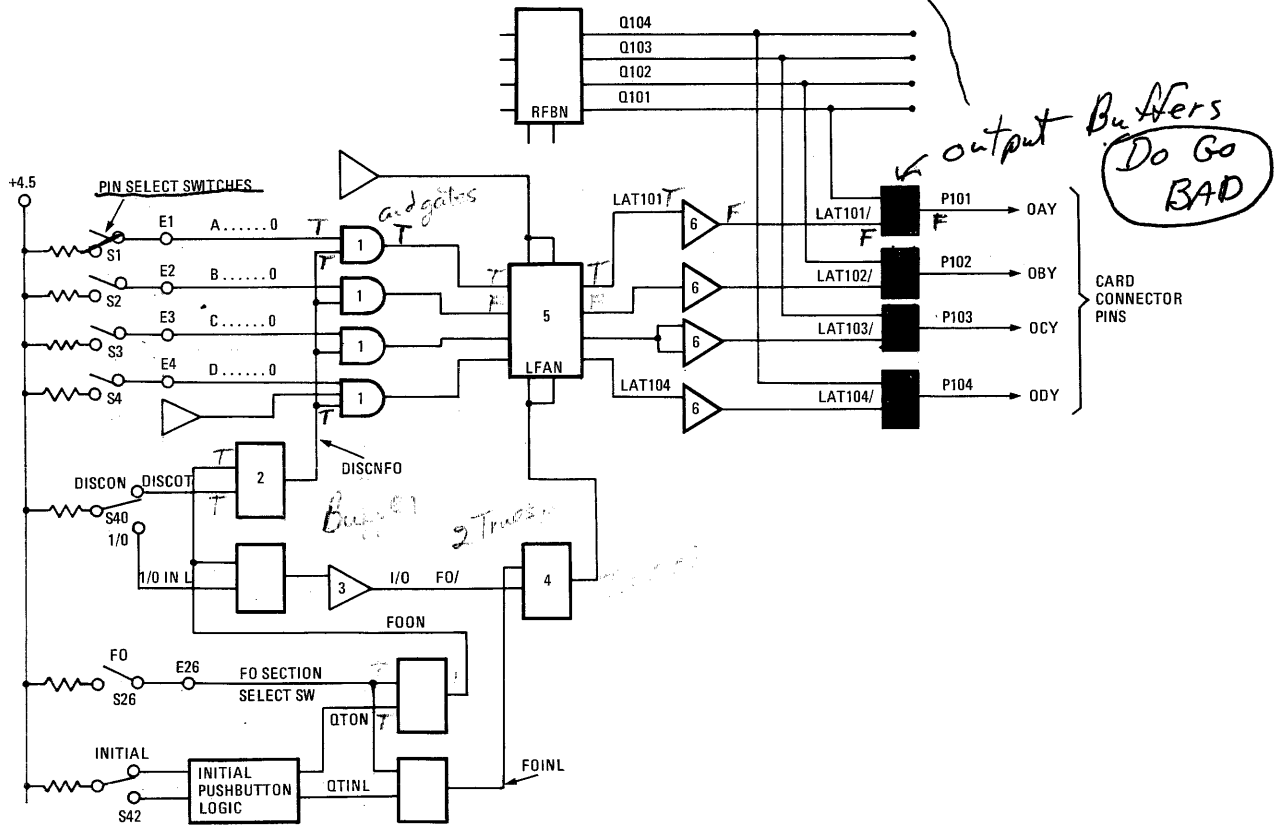

Figure 2-9. Disconnect Logic
The disconnect latch input And gates (7) as shown in Figure 2-9, are enabled when the following conditions are true:
All true input terms LAT 101 I thru LAT 104 I are latched into the 4 stage LFAN (5) as shown in Figure 2-9, by FOINL. The LFAN clock is enabled by the following conditions:
2. Inverter (3) term 1/0 F0/ false.
The 4 stage LFAN (5) is permanently wired in the D-set mode as shown in Figure 2-9. True input terms LAT 101 I thru LAT 104 I are latched into the LFAN by clock pulse FOINL. The corresponding true LFAN outputs are inverted (6) to disable the output buffers (7). Therefore the word generator stage output is logically disconnected from the card connector pins OAY thru' ODY by the output buffers (7).